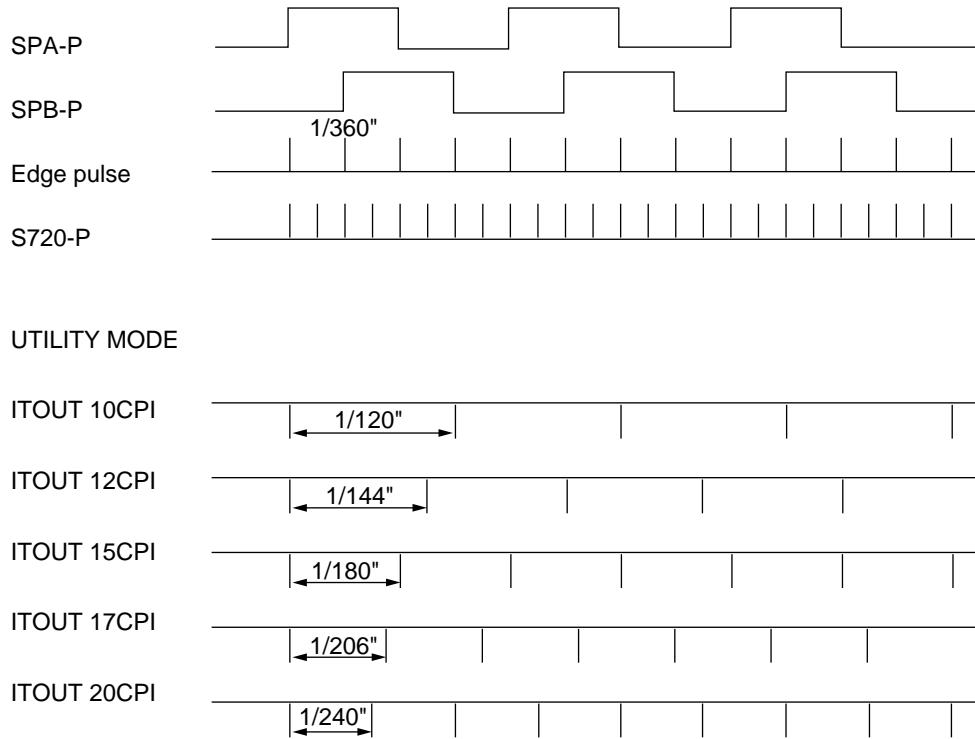

Figure 2.14
(2) Motion of Printhead (Fig.2-14)